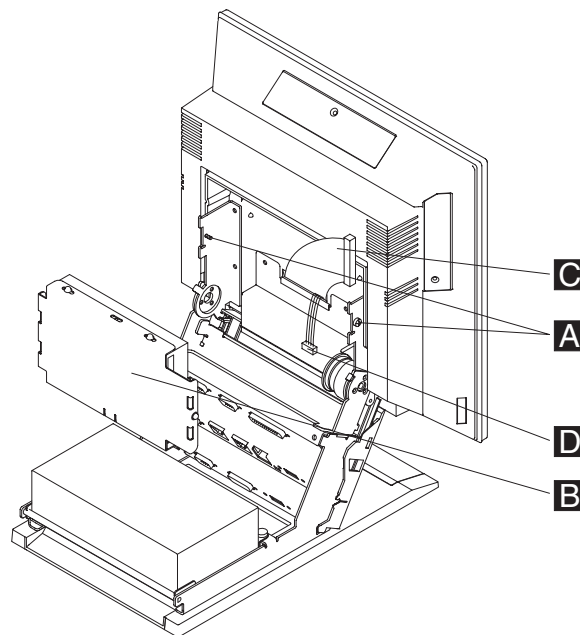

Figure 55. Removing the HDD power and data cable ribbon connector
4. Remove the HDD power connector **D** and data cable connector **C**, as shown in Figure 55. Pull gently on the data cable connector (do not pull on the cable itself) until the connector is free